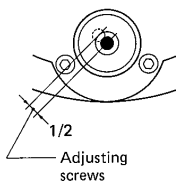

Fig.7.3
- 4) Eliminate the remaining half shift with the circular level adjusting screws ③ using the hexagonal wrench ⑮. (Fig.7.3)